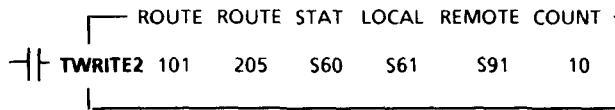

Figure 5.9 Rung for Variable ROUTE Example on Port 2
1. Program the rung shown below in Figure 5.9 in the initiating Model 650.